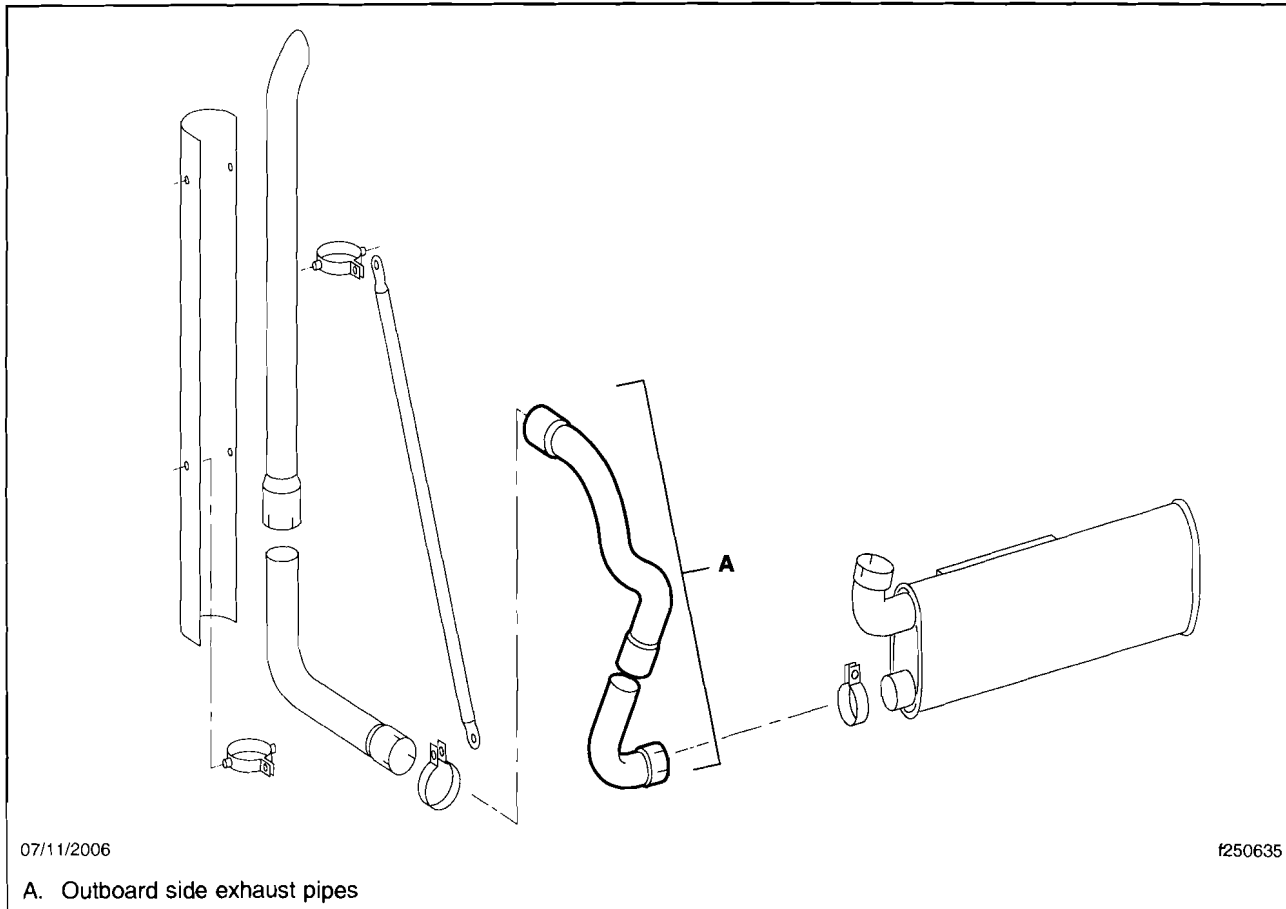

Fig. 3, Vertical Exhaust
7. If the vehicle has a vertical exhaust, remove the exhaust pipe assembly from the outlet side of the muffler. See **Fig. 3**.